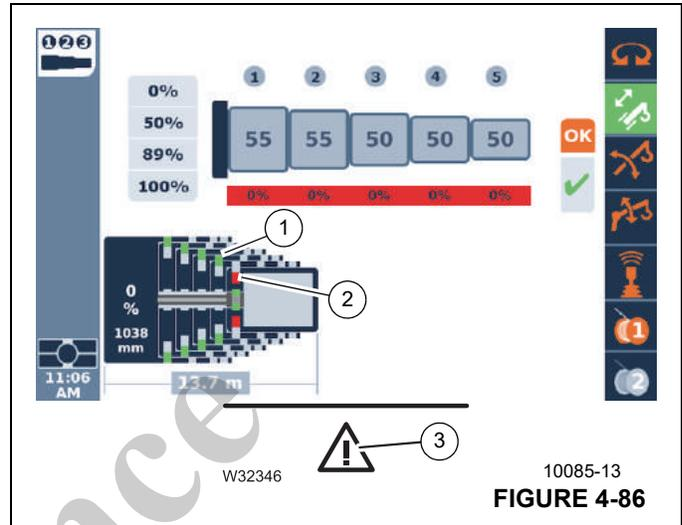

FIGURE 4-86
Current relation of the telescopic sections to each other – section of top view Figure 4-86.
The image shown in Figure 4-86 shows the status of the section and cylinder pins. Green (1) indicates that the pin is locked, Yellow shows that it is in an intermediate position and Red (2) is unlocked. Additionally, if the hazard triangle (3) is present, an error exists.